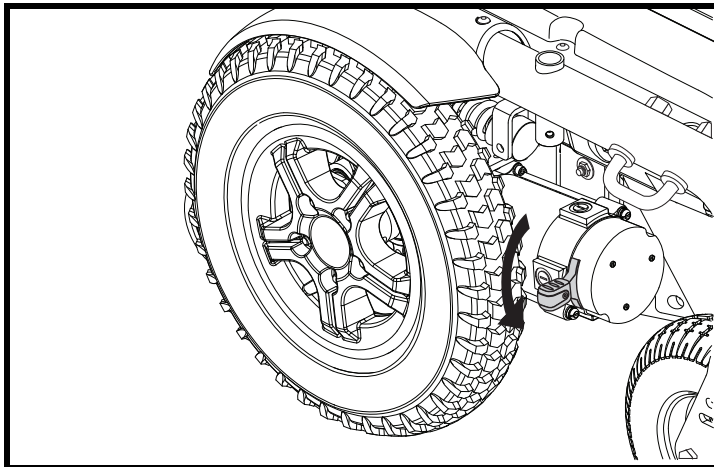

Figure 8. Freewheel Mode (Drive Disengaged)
For your convenience, your power chair is equipped with two manual freewheel levers mounted on the motors. See figures 8 and 9. These levers allow you to disengage the drive motors and manoeuvre the chair manually. You can manually push the power chair by the seatback or push the power base itself if the seat is removed.
1. Push the manual freewheel levers down for freewheel mode (drive disengaged). See figure 8.